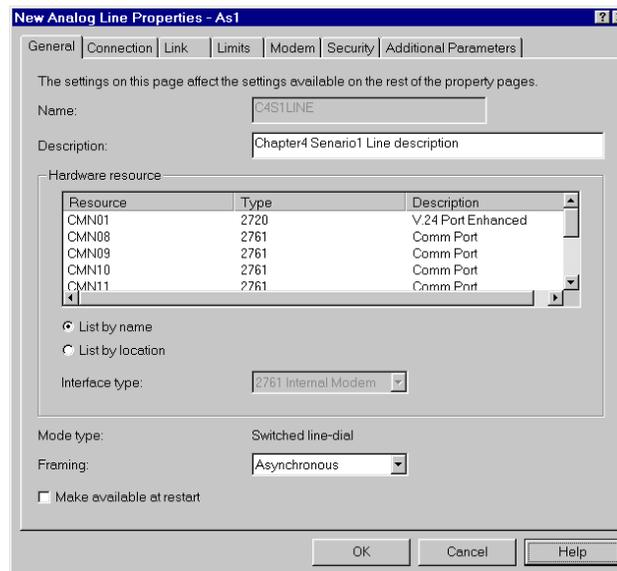

Figure 97. Selecting the resource name for the line description
3. Click **New**. The New Analog Line Properties page appears (Figure 97). Enter a description, and select a resource name.